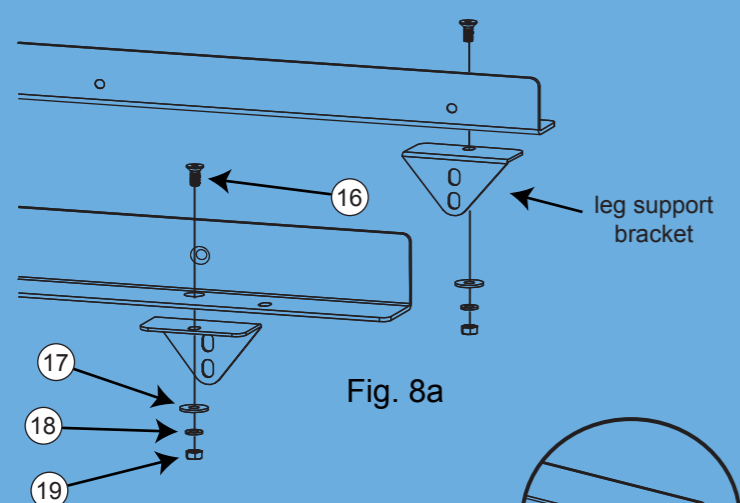

Fig. 8a
• Locate the two leg support brackets. Remove the two M8 x 20 countersunk socket head bolts (16) from the T-Glide Table Hardware Pack along with two M8 washers (17), two M8 lock washers (18) and two M8 hex nuts (19). Mount one leg support bracket to the underside of each of the rails as shown in Fig. 8a. Hand tighten the nuts; do not fully tighten them.